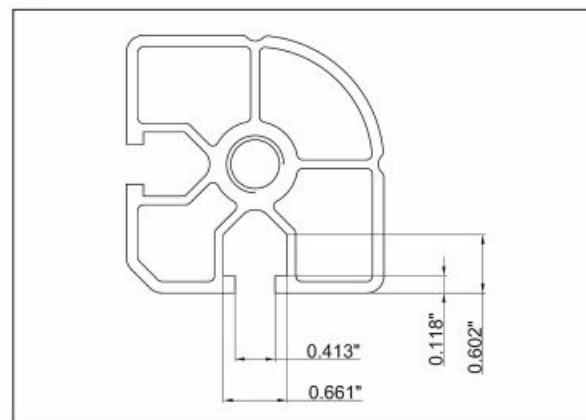

Fig.2
- **Fig.2** shows the size of the legs' T-slot.